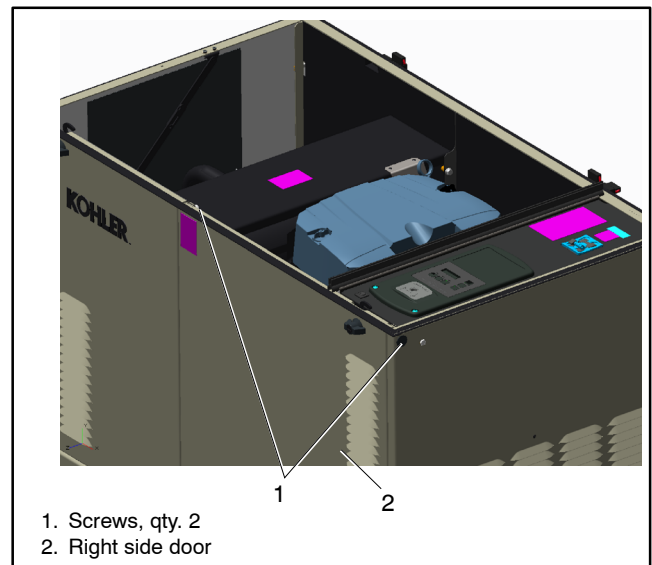

Figure 2 Removing the Service Door
4. Remove the service door from the right side of the enclosure by removing the plug and two screws. See Figure 2. Lift the door up and off.